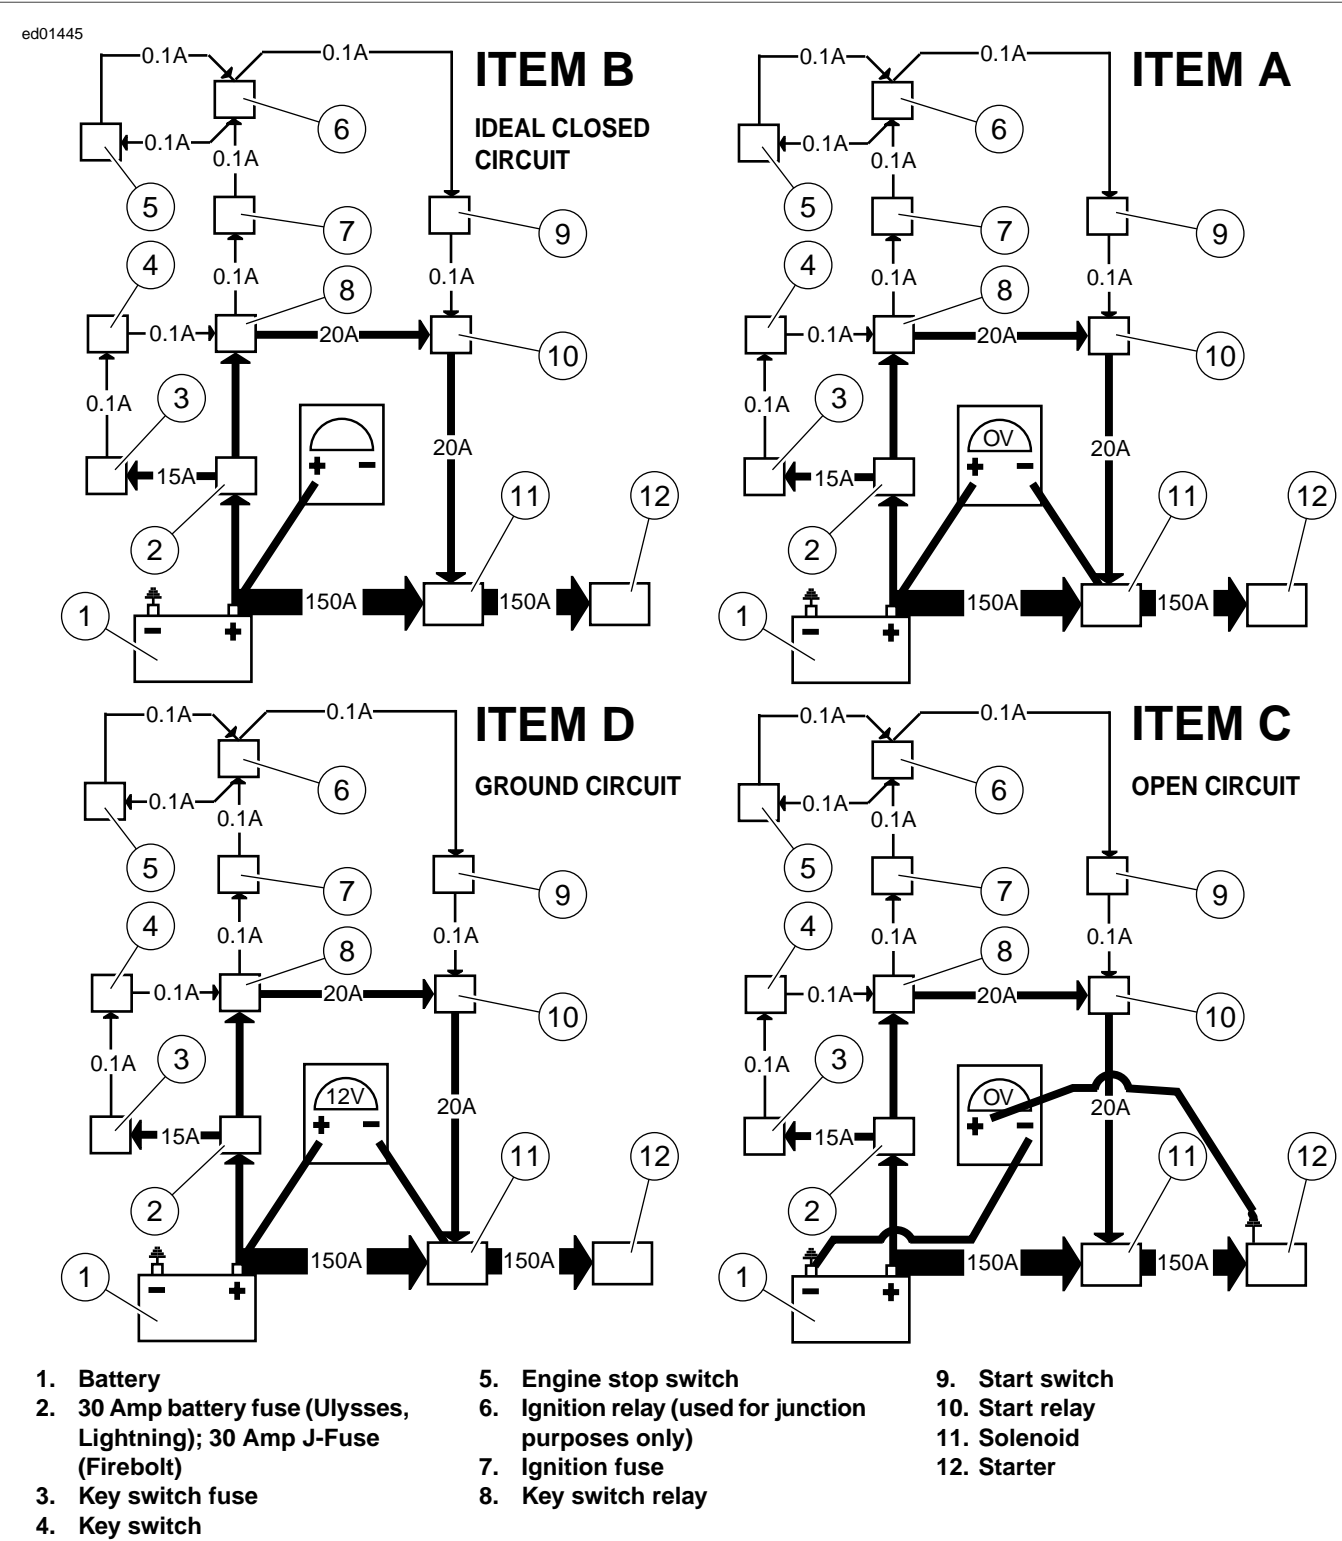

Figure 1-5. Typical Circuitry. Refer to wiring diagrams for more information.
1. See ITEM A in Figure 1-5. Attach your red meter lead to the most positive part of the circuit, which in this case would be the positive post of the battery.
2. See ITEM B in Figure 1-5. Attach the black meter lead to the final destination or component in the circuit (solenoid terminal from relay).
4. See ITEM C in Figure 1-5. An open circuit should read 12 volts, displaying all the voltage dropped, and the entire difference in potential displayed on the meter.
6. See ITEM D in Figure 1-5. The negative or ground circuit can be checked as well.